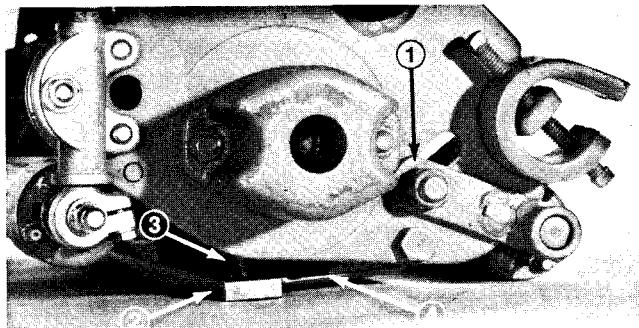

Figure 11
1. Loosen rear roller brackets. Adjust one bracket and tighten the nut on the capscrew. See the table below for the proper adjustment. Leave bracket on the other side mounted loosely (Fig. 11).
**IMPORTANT:** Rear roller bracket position must be identical on all three (3) cutting units so bedknives are at the same angle. If bedknives are not at the same angle there will be a difference in the appearance of the cut grass (mismatch) for each cutting unit.
2. Place a 1/4 inch (6 mm) or thicker plate under the reel blades and against the cutting edge of the bedknife (Fig. 11).